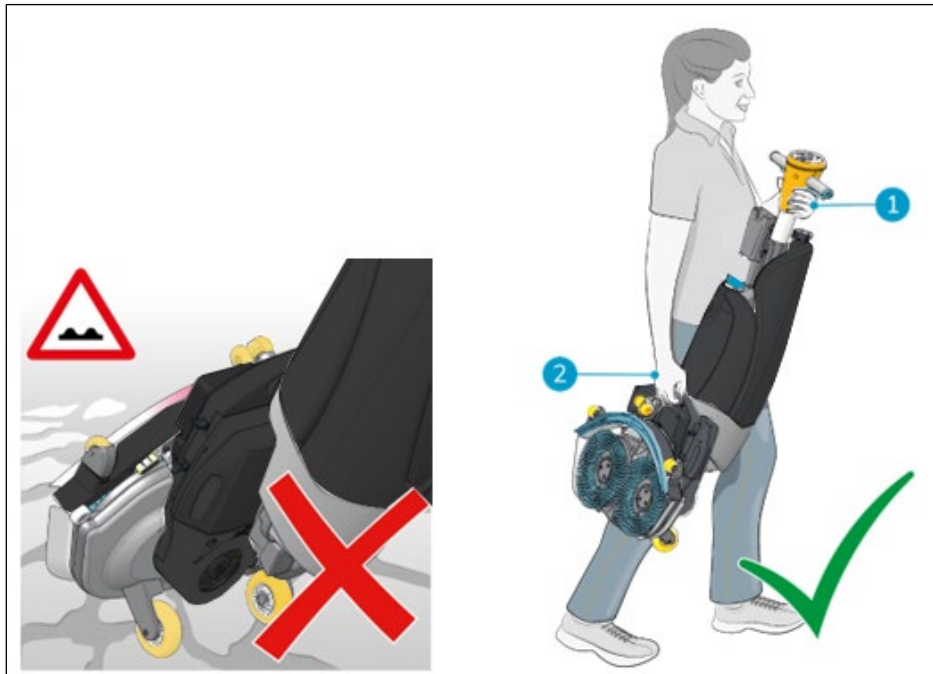

Figure 7
2. Carry the SAFE-T-IMOP with one hand while holding the handle (Figure 7, pos 1) with your other hand. (Figure 7, pos 2).